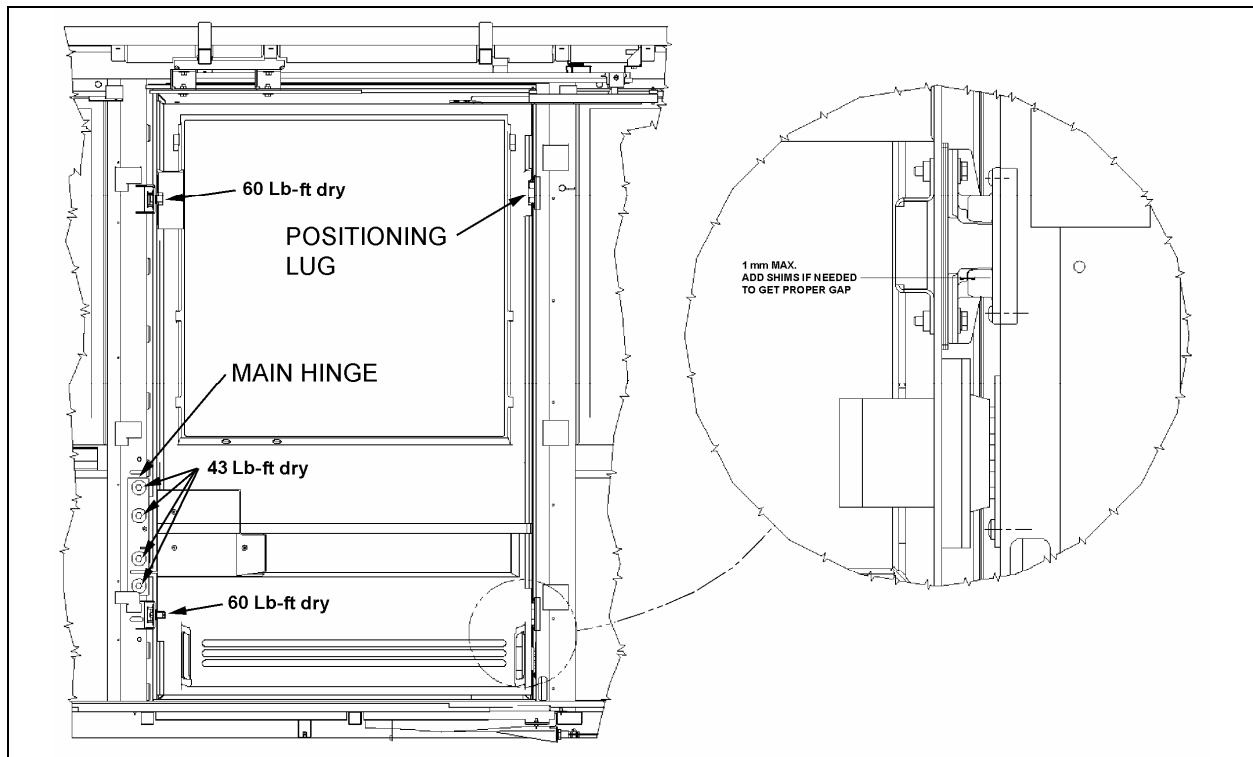

FIGURE 53: WCL SLIDING DOOR INSTALLATION
- Install and adjust strikers. Torque to 60 Lb-ft (Refer to figure 53).